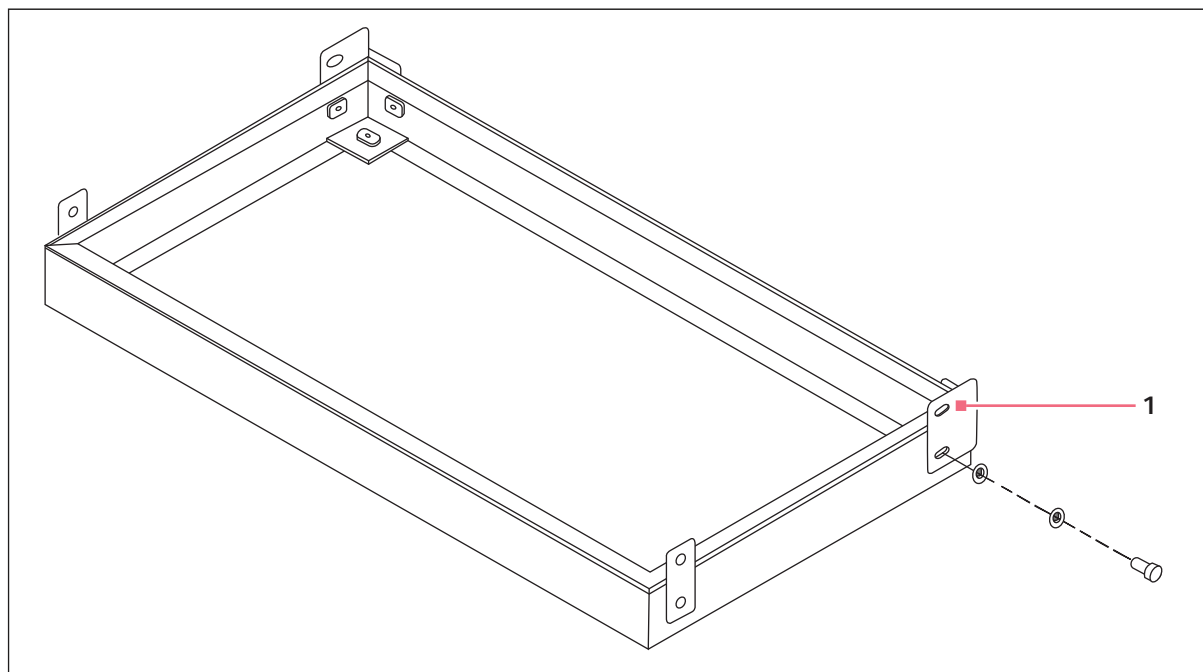
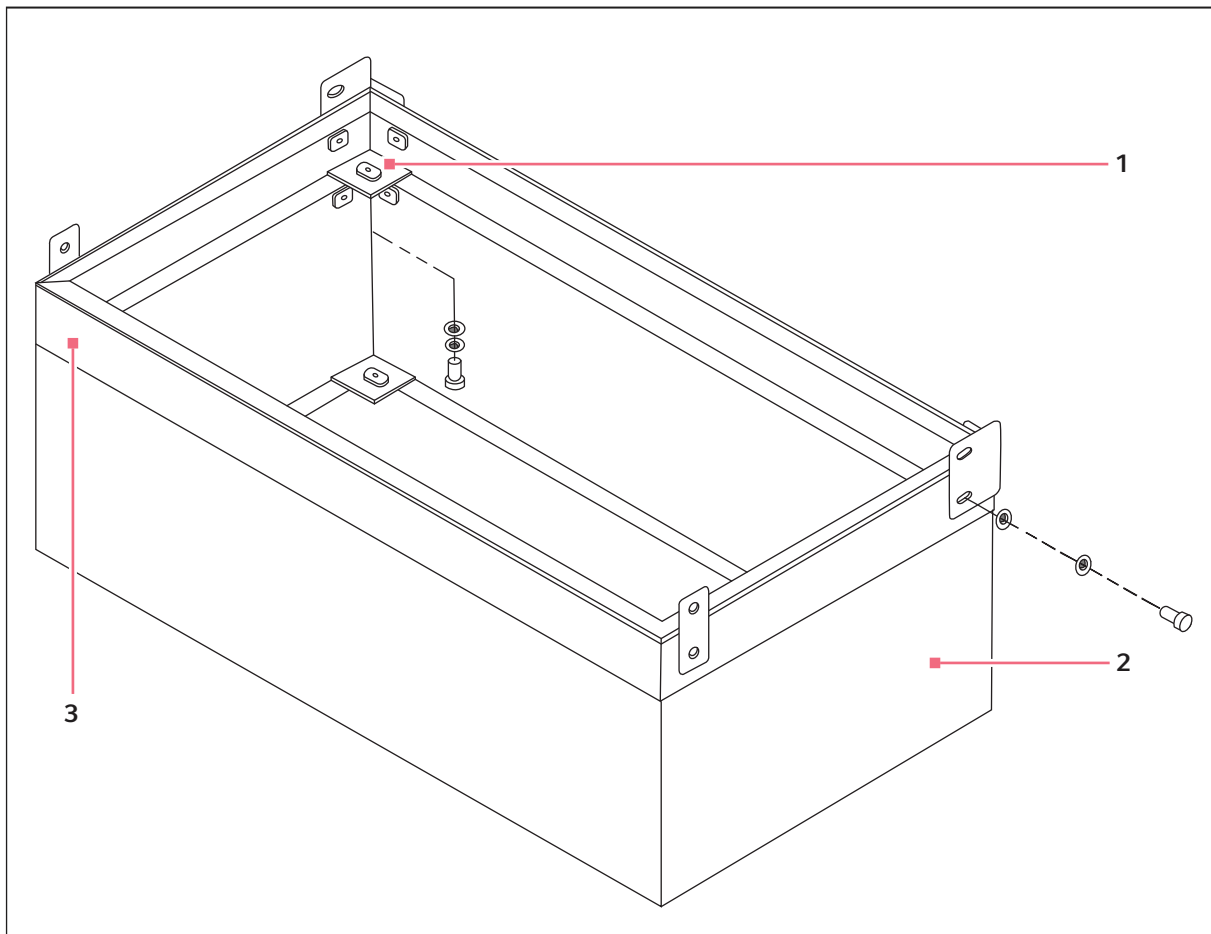

Fig. 4-2: Optional short base, 10.2 cm (4 in)
Fig. 4-3: Optional tall base, 43.2 cm (17 in)
3. If you are mounting a single shaker, use the 43.2 cm (17 in) base (see Fig. 4-3 on p. 21). Bolt the shaker to the base using the hardware provided.
4. (see Fig. 4-2 on p. 20) and (see Fig. 4-3 on p. 21). Depending on the height of your base, install the front side braces and rear corner braces on the base with the hardware provided, matched to the holes in the base.